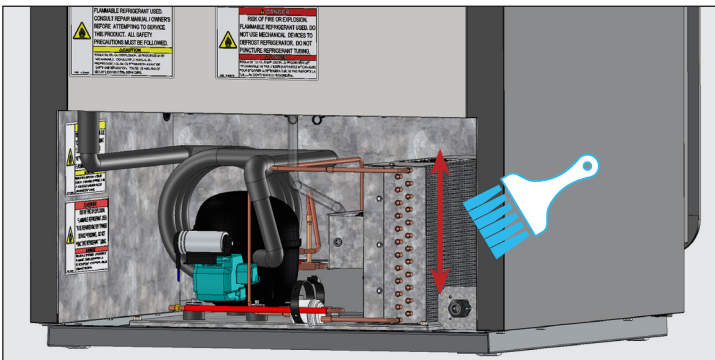

Fig. 3. Never brush across coil fins.
3. With a stiff-bristled brush, carefully clean accumulated dirt from the front condenser coil fins. See fig. 3.